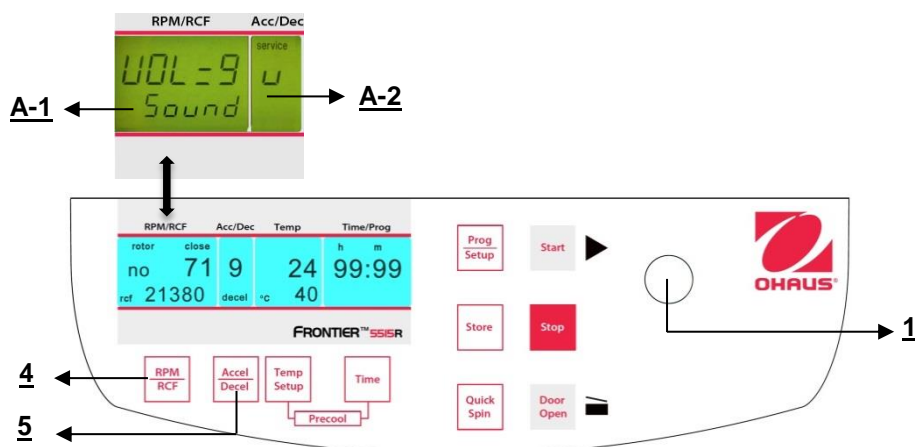

Figure. 34
Proceed as described under point 4.1.2 to enter this program mode and then press the key **"Accel/Decel"** (5). In the display **"Acc/Dec"** (A-2) the word **"Service"** flashes. Now select the letter **"U"** with the adjusting knob (1). As a result, in the display **"RPM | RCF"** (A-1) the words **"Vol=0- 9/Sound"** appear. After pressing the key **"RPM | RCF"** (4), you can adjust the desired volume between 0 (low) and 9 (loud) with the adjusting knob (1) (See figure 34).